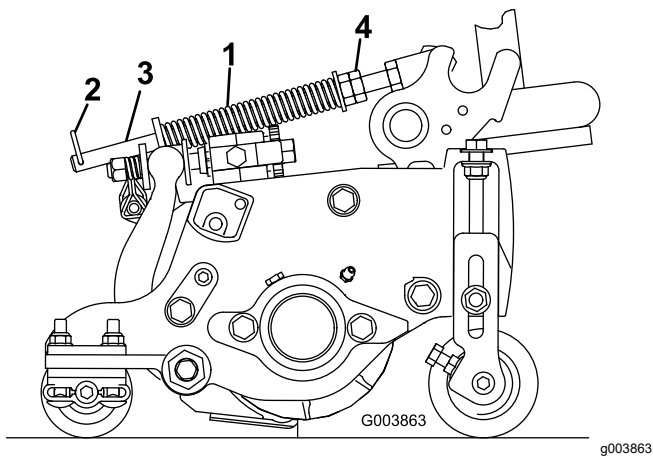

Figure 54
The turf-compensation spring (Figure 54) transfers the weight from the front roller to the rear roller. This helps to reduce a wave pattern in the turf, also known as marcelling or bobbing.
1. Make sure that the hairpin is installed in the rear hole in the spring rod (Figure 54).
2. Tighten the hex nuts on the front end of the spring rod until the compressed length of the spring is 15.9 cm (6.25 inches); refer to Figure 54.